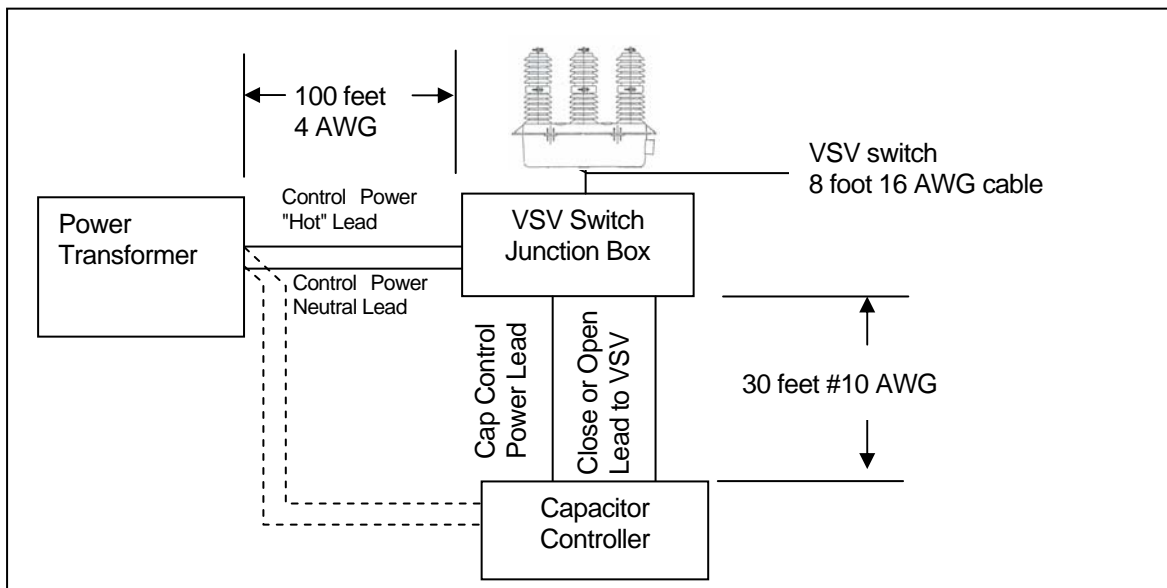

Figure 2: Example Installation
- A. In Figure 2 the power transformer is 100 feet from the junction box or the capacitor controller. Since #4 AWG is run between the transformer and the junction box or the controller there is a total of 200 feet (hot and neutral) of #4 AWG wire. Using Table 3, this run has a resistance of .0497 ohms and a voltage drop of 1.79 volts ($36 \times .0497$).